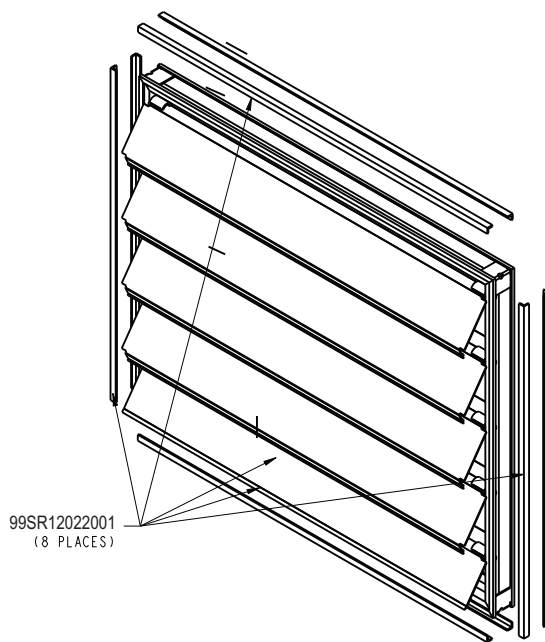

Fig. 77 — Installing the Gasket on the Damper
6. If a damper was ordered, install the gasket on the entering and leaving side of the damper as shown. Note, apply the gasket on both sides of the corner (90 degrees) by bending the gasket. See Fig. 77.